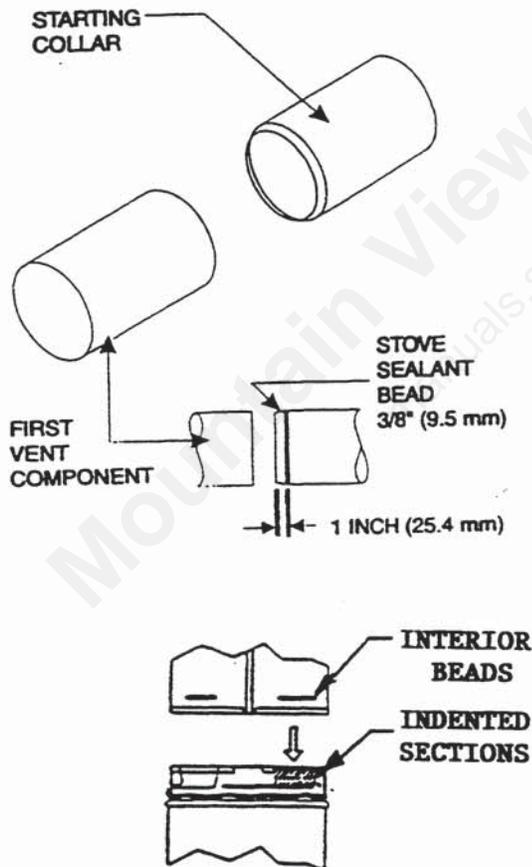

FIGURE 11
WARNING: You **MUST** place a 3/8" (9.53 mm) **MINIMUM** bead of stove sealant material around the end of the fireplace 4-inch (102 mm) starting collar **BEFORE** installing the first vent component. The sealant should be placed 1-inch (25.4 mm) from the end of the collar as shown in Figure 11. The stove sealant is supplied in all termination kits.
WARNING: If the first vent component is not properly installed and sealed tightly to the appliance vent starting collars, the appliance may not operate properly. This is especially important for the 4-inch (102 mm) inner pipe. See Figure 11.
All vent system components lock into place by sliding the concentric pipe section with four (4) equally spaced interior beads onto the appliance collar or previously installed component end with four (4) equally spaced indented sections. When the internal beads of each 6 5/8 (168 mm) outer pipe line up, rotate the pipe section clockwise approximately one quarter turn. The vent pipe is now locked together. See Figure 11.